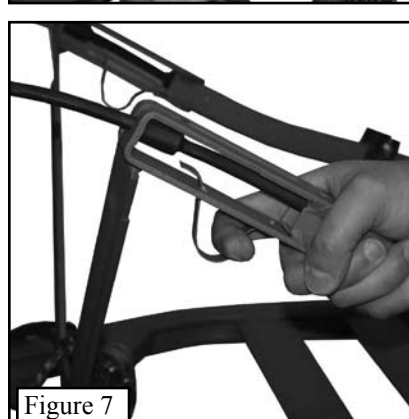

Figure 7
Step 1. Attach the base platform to the tree first. To do this, pull down and hold the QuickDraw cable spring as shown in **Figure 7**. This will release the locking tab from the cable, allowing you to remove it from the cable bracket.